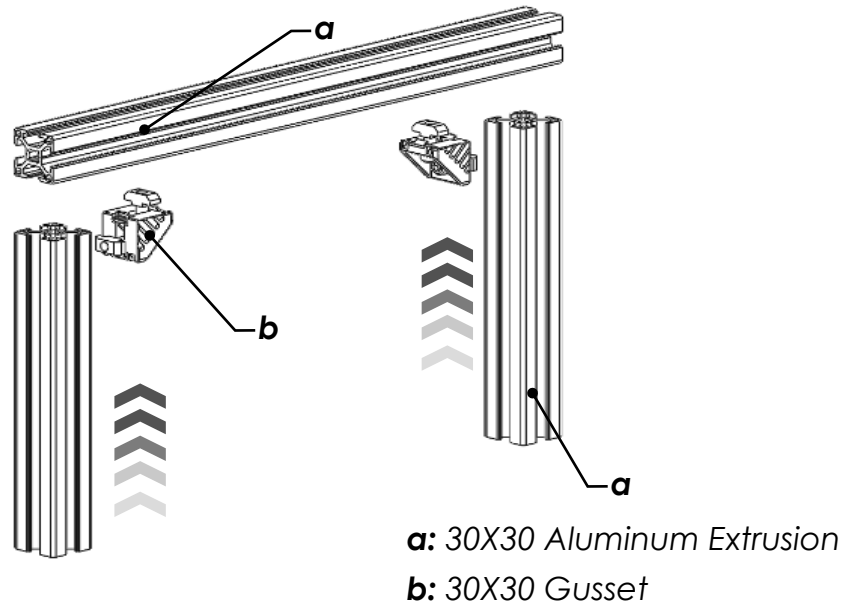

Figure 2
- While holding the printer, tightly fasten the M5 Nuts as shown in Figure 2.